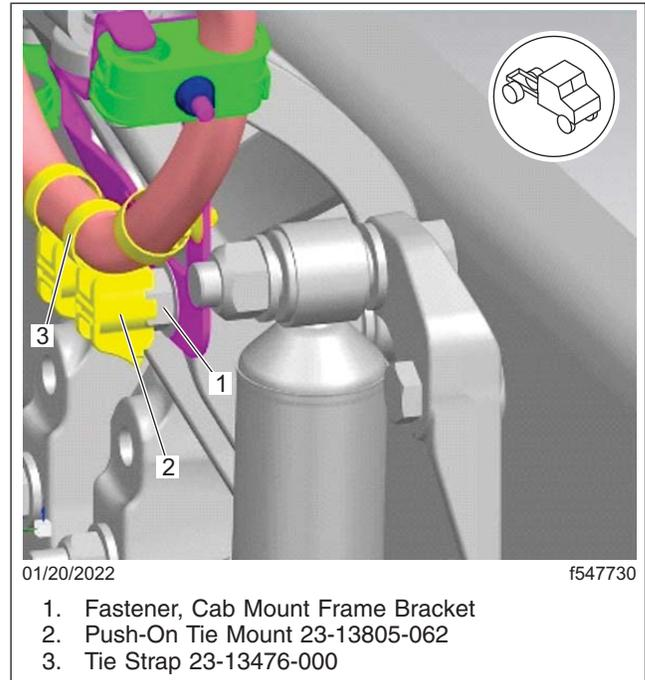

Fig. 14, Copper Cable Secured
- 15.2 Secure the new copper positive 4/0 cable to the push-on tie mount using tie straps (23-13476-000). See **Fig. 14**.